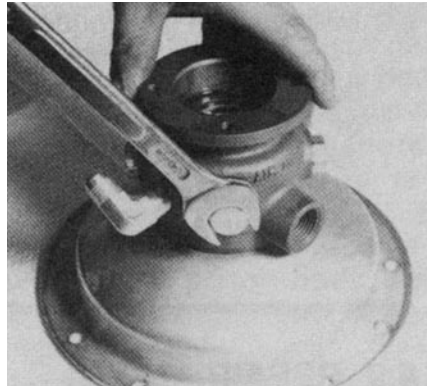

Figure 4-7 Removing detent bolt, spring and pin.
- 4.7.1 Use 11/16" wrench and remove the four sets of detent bolts (6), springs (7), and pins (9) from the air valve body (5A). See Figure 4-7.